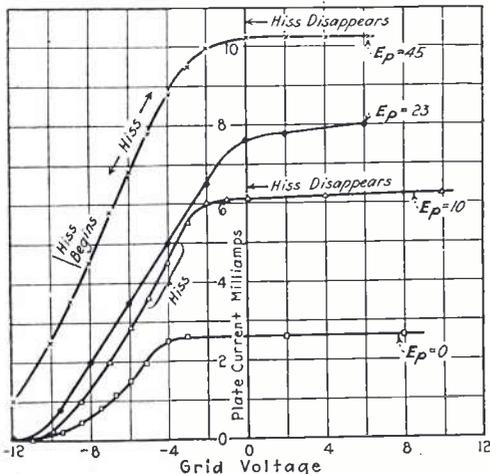

Fig. 5. K Na tube 1924—Showing peculiarities in characteristic curves for tube two years old
3. "Hard" and "Soft" Tube Peculiarities. Attention is again called to the fact that increasing the filament temperature gives the "gassy" potassium sodium alloy tube characteristics of a high vacuum amplifier. This is especially true of the shape of the characteristic curves of such tubes also illustrated in the bulletin referred to. As a matter of interest Fig. 5 is given showing how a potassium sodium alloy tube behaves during the change in grid potential indicated by the abscissa of the curves. While the data taking operation is proceeding a hissing sound occurs in phones in the plate circuit, then the ranges of E_g indicated, as if ionization were setting in, but the curves are not "kinky" as those of gas content tubes, and for higher values toward $(+E_g)$ the hissing ceases. This tube in use gives both the sensitive detector performance on weak and strong signal voltages, and the efficient amplification of strong amplifier input voltages. In either service it is a considerable improvement over the same tube not primed with the alloy. The degree of rise and fall of plate current during the warming up process and the attendant hissing noise were decreased by more thoroughly outgassing the electrodes with the aid of a high frequency induction furnace. However, such tubes were seemingly just as sensitive as those which were more "gassy." The transient plate current characteristic shown in Fig. 1 could not be eliminated by heat treatment and long continued evacuation, hence it seems that the transient "warming up" current and hissing is due to increasing activity of the alloy molecules as the alloy vapor pressure increases.